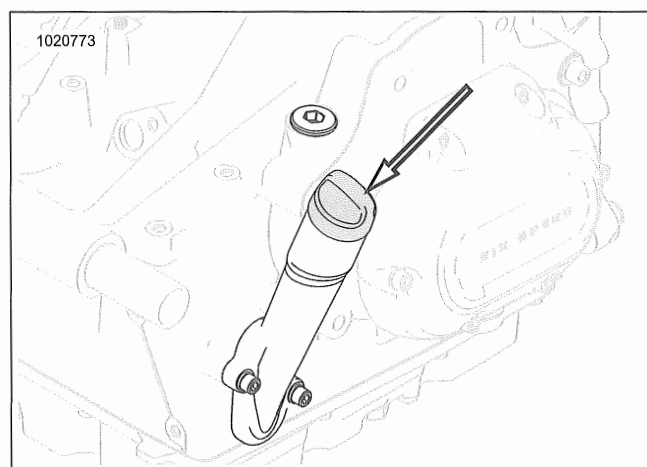

Figure 2-1. Engine Oil Filler Plug
2. See Figure 2-1. Check engine oil level.
3. See Figure 2-1. Check oil level.